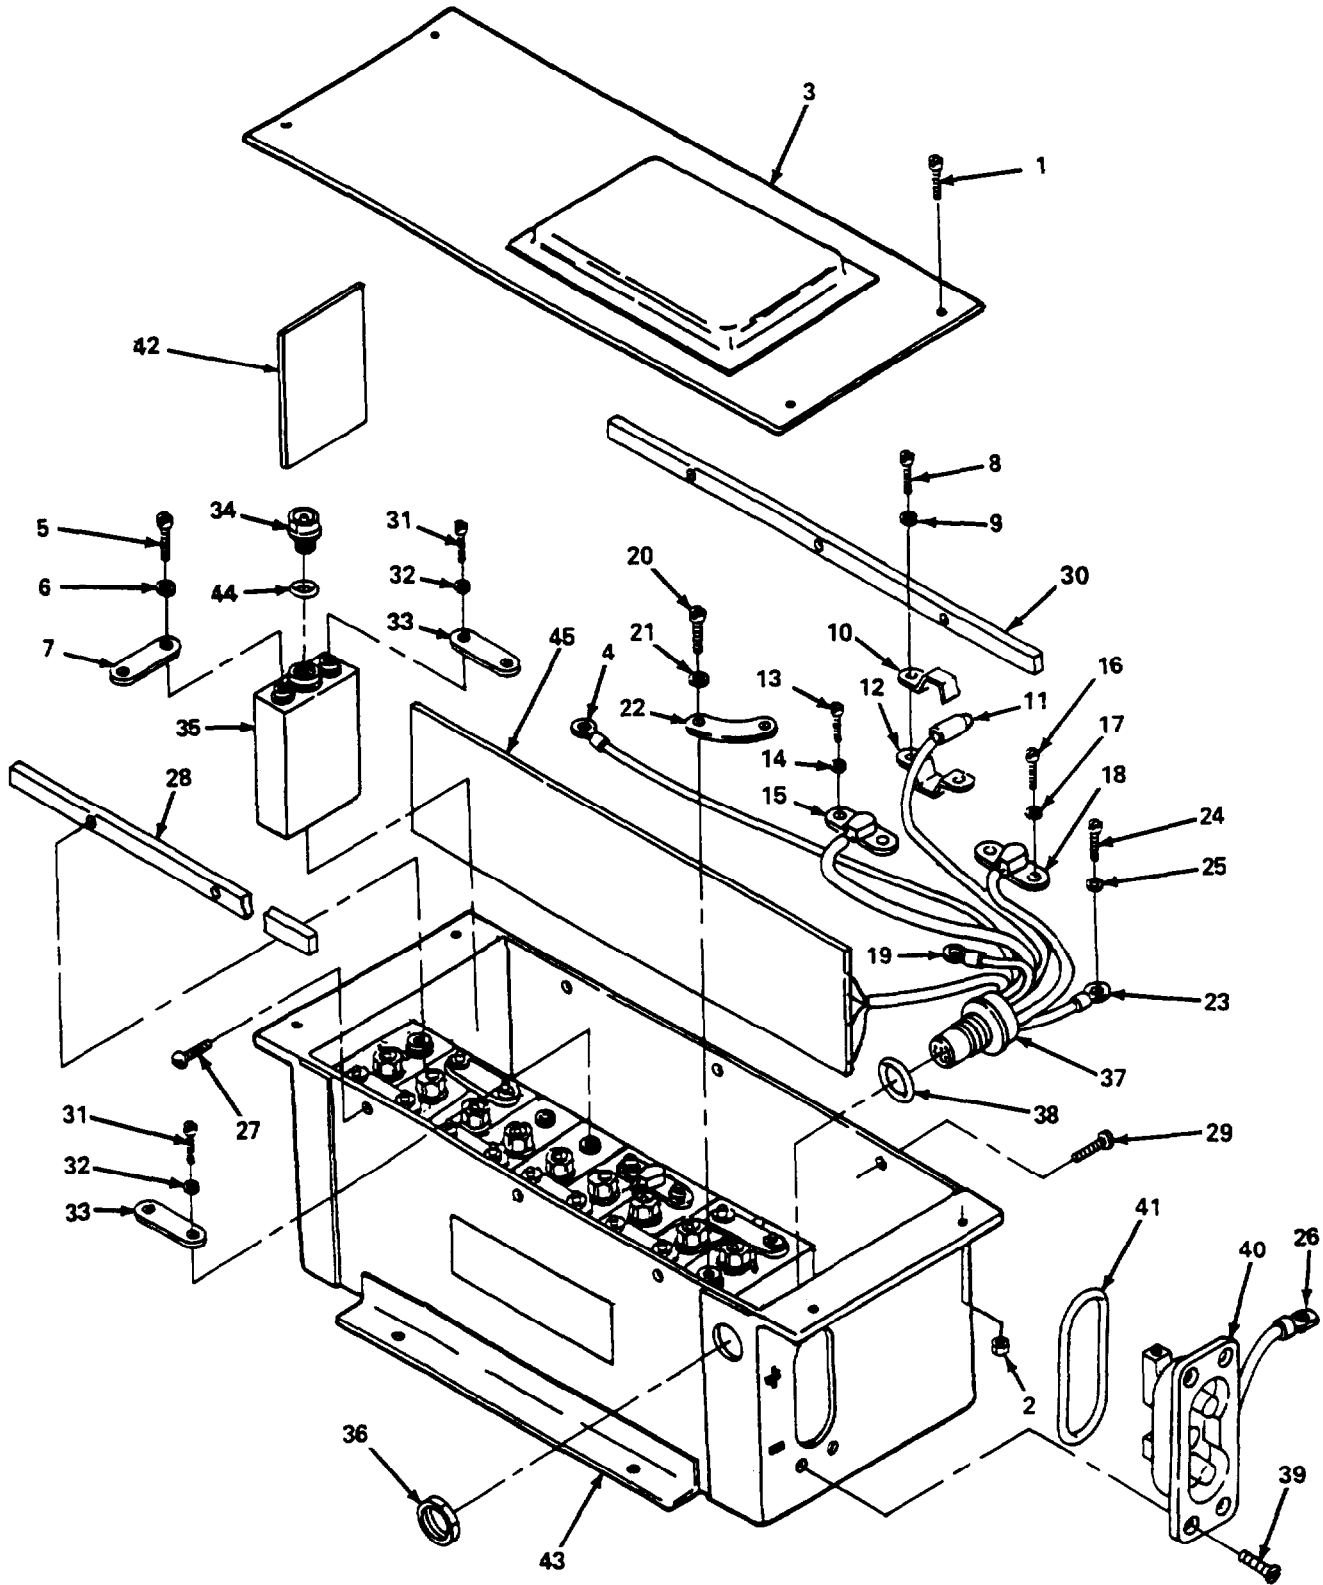

Figure 3-24. Battery BB-564/A Disassembly.
a. Disassembly/Reassembly (fig. 3-24).
- (1) Remove four screws (1) and nuts (2) and remove cover (3).
- (2) Discharge battery (para 3-10).
(1) Discharge battery (para 3-10).
(2) To remove any of the above items, refer to the exploded view (fig. 3-24) and the appropriate sections of paragraph 3-22a.
(3) Upon completion of repair, perform the tests contained in paragraph 3-22c below.